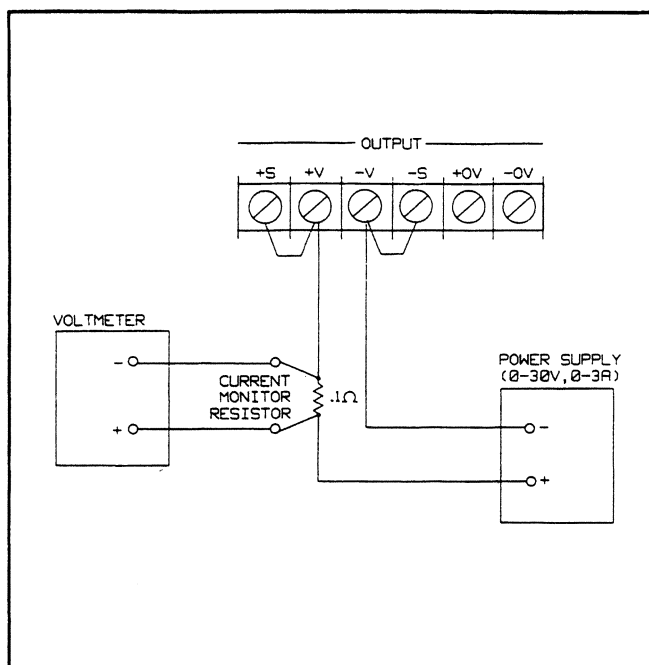

Figure 3-6. Negative Current Limit (-CC) Readback Accuracy
- a. Turn off the supply and connect the output to be tested as shown in Figure 3-6.